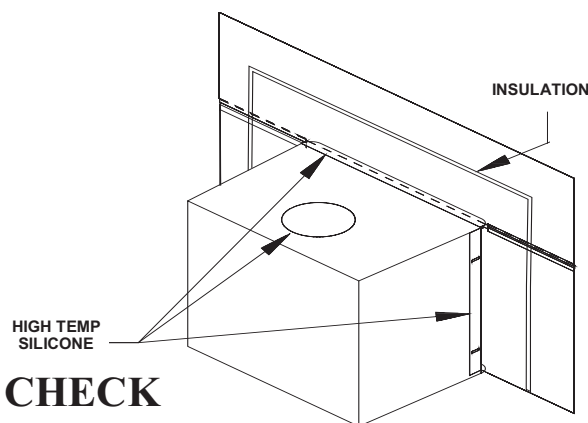

FIGURE 11
10. Using insulation provided, peel and stick to back of panels overlapping fireplace dimensions by 1" on each side and top. (See Figure 11).
11. Next using high heat silicone or furnace cement, run heavy bead of caulking around where panels meet stove. (See Figure 11).